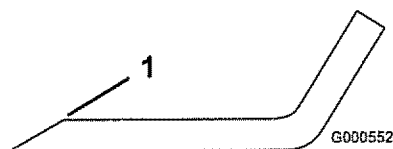
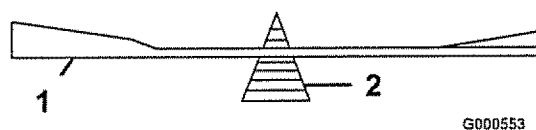

Figure 44
Figure 45
1. Use a file to sharpen the cutting edge at both ends of the blade (Figure 44). Maintain the original angle. The blade retains its balance if the same amount of material is removed from both cutting edges.
2. Check the balance of the blade by putting it on a blade balancer (Figure 45). If the blade stays in a horizontal position, the blade is balanced and can be used. If the blade is not balanced, file some metal off the end of the sail area only (Figure 44). Repeat this procedure until the blade is balanced.